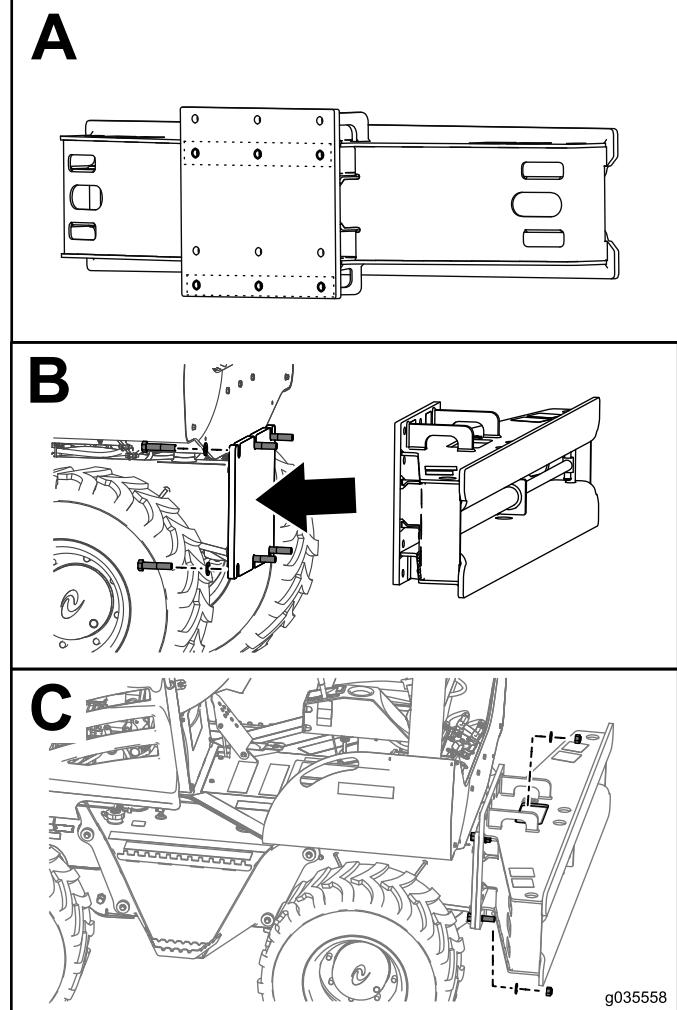

Figure 1
2. Locate the 2 rows of holes in the mounting plate that you will use to secure the attachment to the machine (Box A of Figure 1).
3. Secure the sliding offset frame onto the machine using 6 bolts (3/4 x 3 1/2 inch), 12 washers, and 6 locknuts as shown in Box B and Box C of Figure 1.